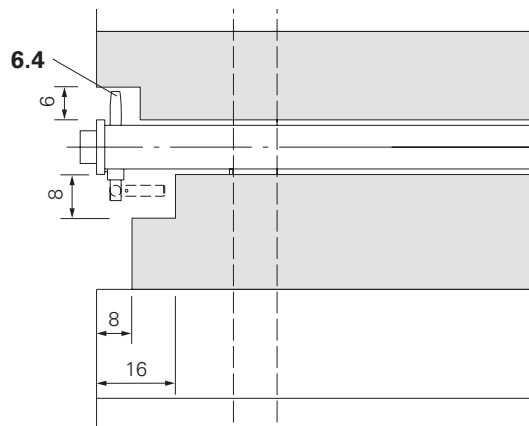

Fig. A1.17a
5. Produce cut out for operating the securing bolt (6.4). (Fig. A1.17a)